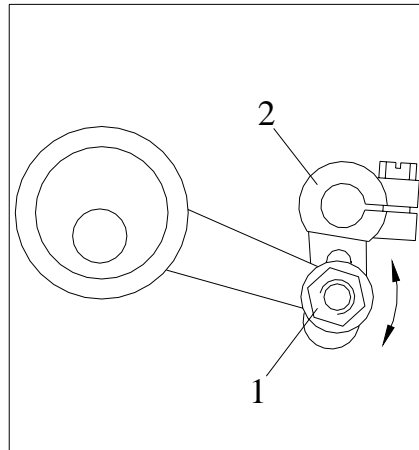

Fig.15
(1) Loosen the wing nut to adjust the lifting capacity of the clamp. Move it upwards to increase the lifting capacity while downwards to reduce the lifting capacity (Fig. 15). After adjustment tighten the nut.